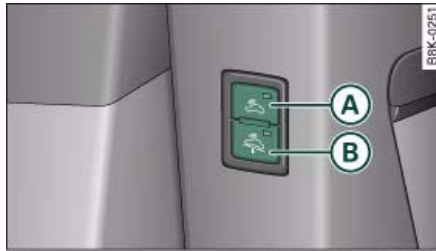

Fig. 40 Front end of the driver's door: Switches for interior monitor and tow-away protection
- Press switch **A** ⇒ fig. 40. The diode in the switch will light up.